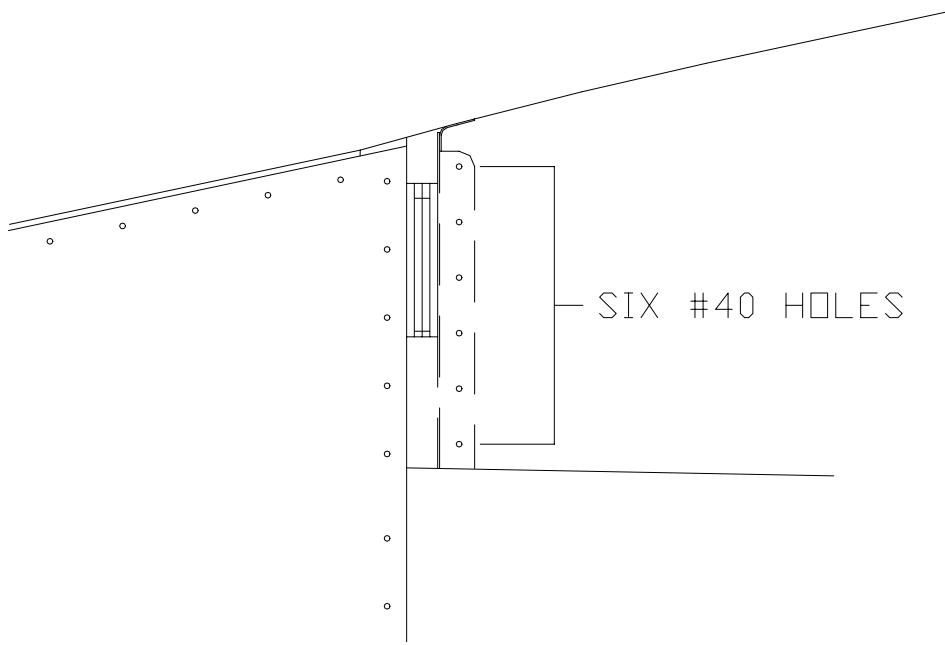

FIGURE 7
33) Drill six #40 holes through the root rib into the bulkhead vertical flange. Figure 7.